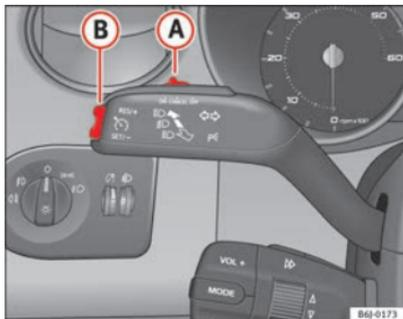

Fig. 113 Turn signal and main beam headlight lever: switch and rocker switch for the cruise control
- Press the lower part **SET** of the rocker switch ⇒ fig. 113 **(B)** once briefly when you have reached the speed you wish to set.